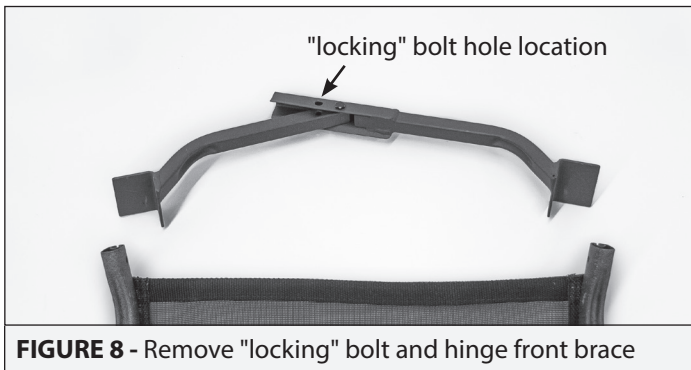

FIGURE 8 - Remove "locking" bolt and hinge front brace
e. Remove the factory installed "locking" bolt and locknut from the front hinged brace (410112), and set aside. Hinge the brace slightly to aid in assembly. **SEE FIGURE 8.**